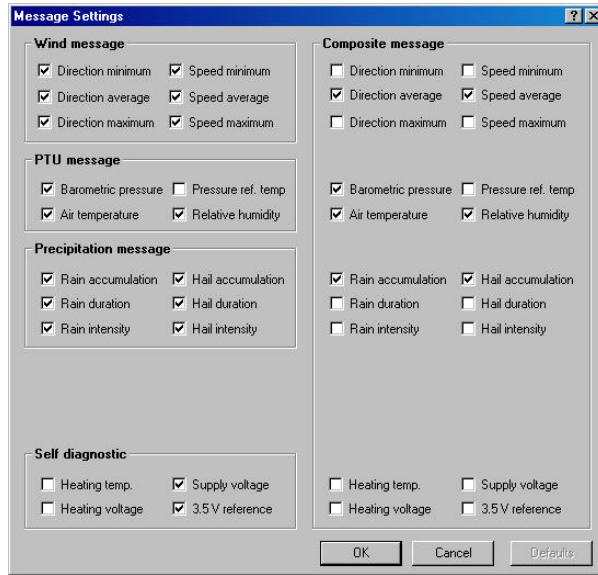

FIGURE A-4. Message Settings Screen
10. Go to the Message Settings Screen and verify that Message Settings are as desired. The default settings are shown in Figure A-4.